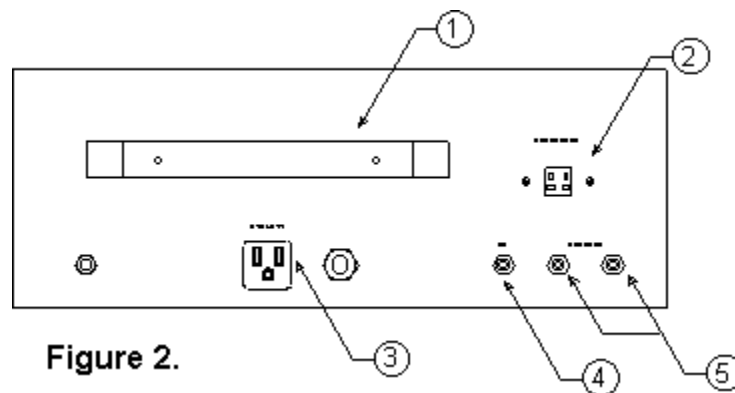

Figure 2.
The rear panel of the enclosure (see Fig.2) contains the following controls and components: (1) A cable winding bracket. Use this feature to store the hand control